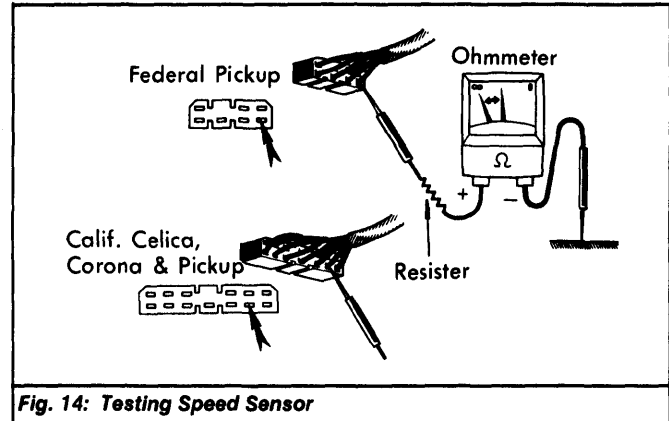

Fig. 14: Testing Speed Sensor
1) Jack up one rear wheel and support off ground. Release parking brake. Place transmission in Neutral. Unplug wiring connector from computer. See Fig. 14. Computer is located on right side or left side cowl.